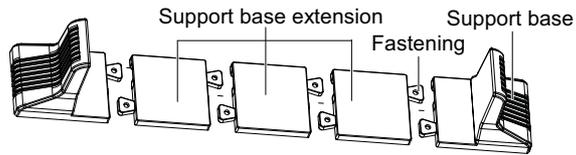

Figure 2-4 Connecting the support base with support base extension
4. If the battery module is necessary, take out the support base extensions delivered with the battery module, and then assemble the support base extensions and the support bases through fastenings, as shown in Figure 2-4.